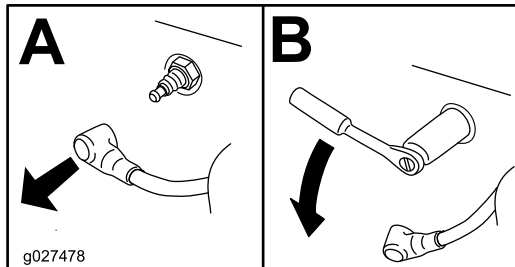

Figure 25
4. Remove the spark plug (Figure 25).